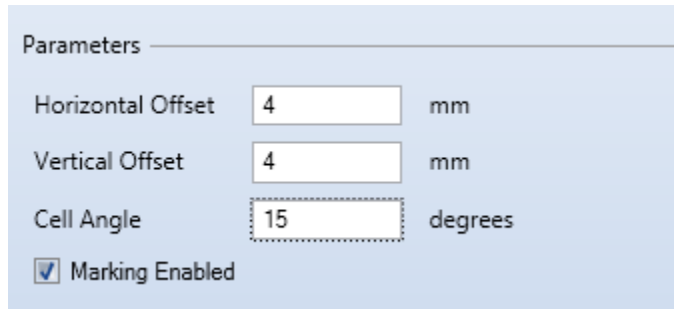

Figure 8 - Parameter Section
- Parameters: contains settings that specify cell positioning (offset) and angle with respect to the tray’s current location. In addition, the **Parameters** section contains a setting for enabling and disabling marking of the selected cell(s) as in **Figure 8 - Parameter Section**